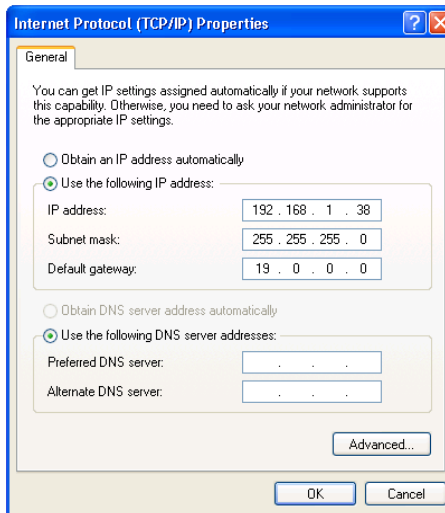

Figure 12: Internet Protocol (TCP/IP) Properties Window
7. Select **Use the following IP address**, and fill in the details as shown in Figure 12.